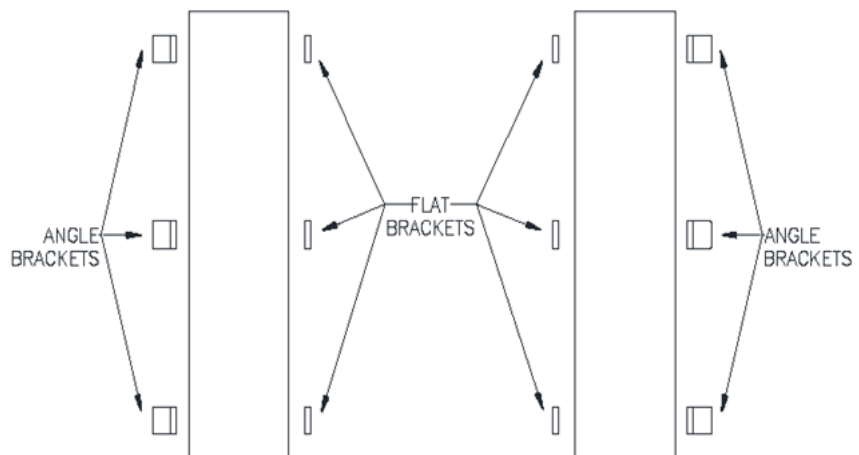

Figure 2
- 2) **Mount Brackets Sets to Vertical (Side) Pads (See Figure 2).**
- 3) **Mount Vertical Pads to the Wall (See Figure 2).**